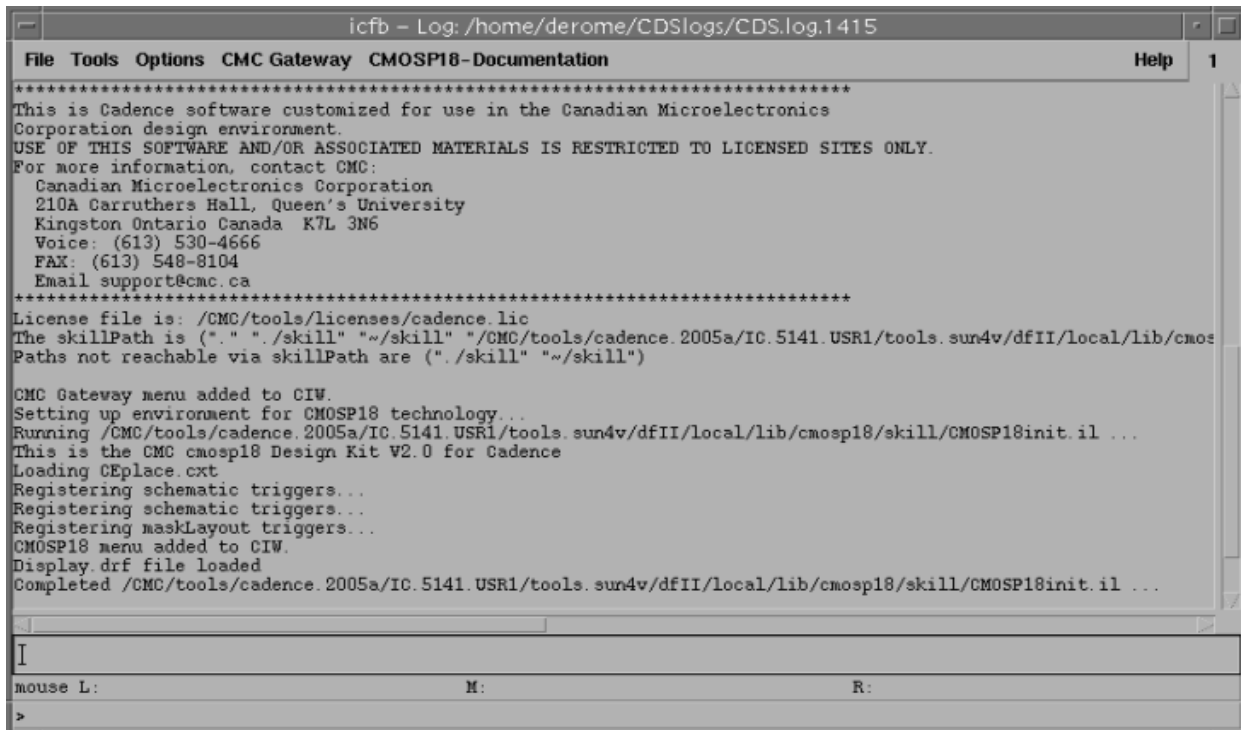

Figure 2: icfb window
- c. *Start Cadence in cadencep18:* After initializing your UNIX environment, start Cadence by typing the command below and the Integrated Circuit Front and Back (icfb) window will be displayed to you (see *Figure 2*). Starting up the icfb window takes a few moments and several things will be displayed to you during this process. Be patient and wait for the whole process to complete.
To create, simulate, and layout a cell you use a few different tools. As indicated at *Section 2.3*, when cadence opens, it brings up the icfb window (*Figure 2*). This is the menu into the cadence tools and also allows us to perform other specific functions, such as library management. Browse through the menu and do not be intimidated by all the options and acronyms. Experiment with the tools to become more familiar with all the different options. Cadence is very robust, it will not let